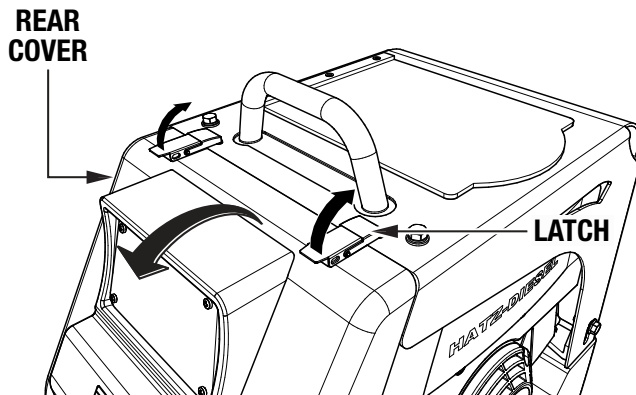

Figure 10. Open Rear Cover
1. Release the two latches at the top of the rear cover (Figure 10), then pull the rear cover downward to open.